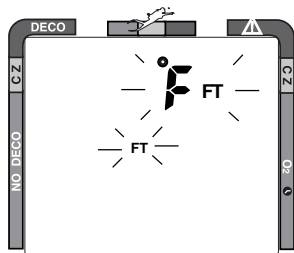

Fig. 24 - Set Units of Measure
- the Units of Measure icons appear flashing (Fig. 24)